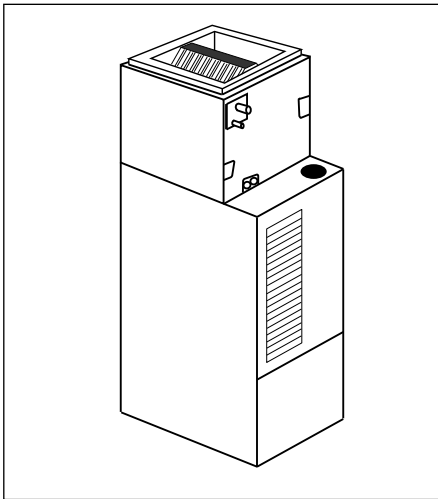

Figure 2. Upflow Furnace Application
3. Install the coil and level it as needed to ensure proper condensate drainage. (See Figure 2)